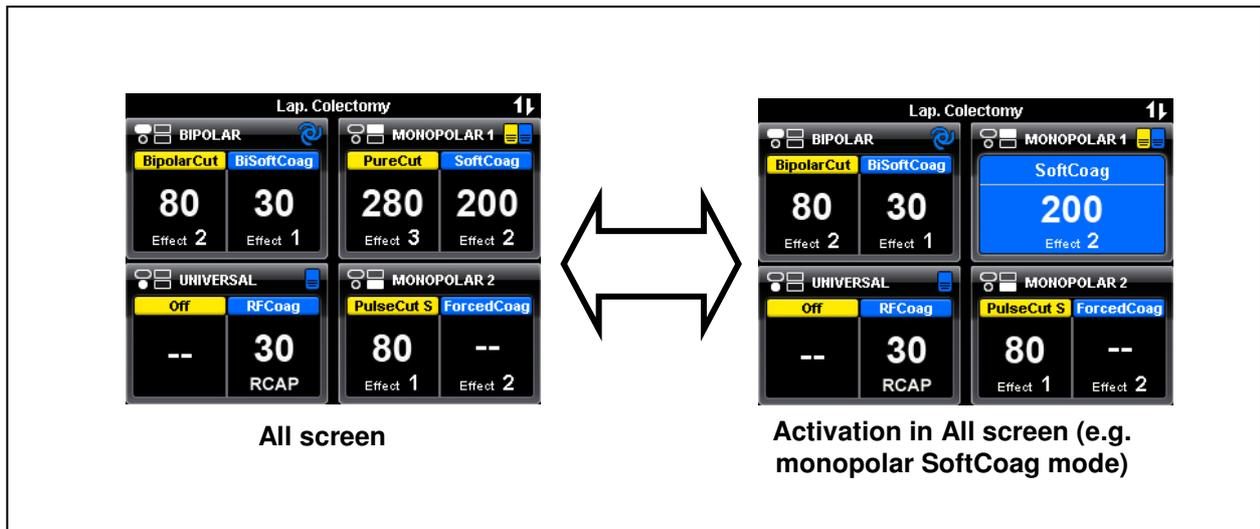

Figure 5.10
Confirm that the settings as indicated are correct and make sure to use the intended footswitch pedal only (cut or coagulation). If an HF instrument with a handswitch is connected, make sure to use the intended handswitch button only (cut or coagulation). It is only possible to activate a cutting or coagulation mode when the power and the effect settings are visible on the touch-screen (“All screen” and the “Set screen”, see figure 5.10).
- If the electro-surgical generator was activated from the “All screen”, the setting area of the corresponding button will change its background color according to the used mode (see figure 5.10).